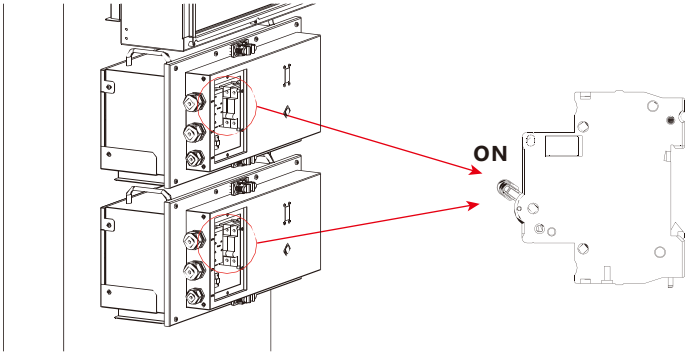

Figure 2.40 Turn on the Circuit Breaker
**Step 23** Turn on the circuit breaker. The status of the figure 2.40 above is connected viewed from the front.